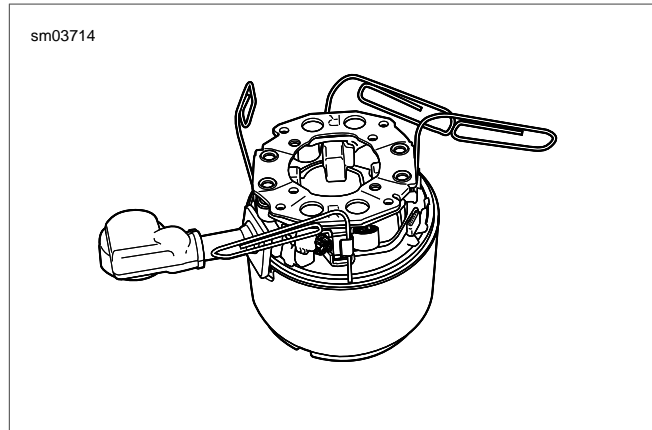

Figure 6-24. Install Paper Clips to Hold Brush Springs
2. Retract all four brushes for armature installation. For good results, obtain four paper clips. Bend free end of each paper clip outward approximately 90°. Then, pushing on inboard side of brush, insert straight end of paper clip between outboard side of brush and inboard side of brush spring. Properly installed, the paper clip contacts the framework of the brush holder to keep spring pressure off the brush. Repeat step on remaining three brushes as shown in Figure 6-24.